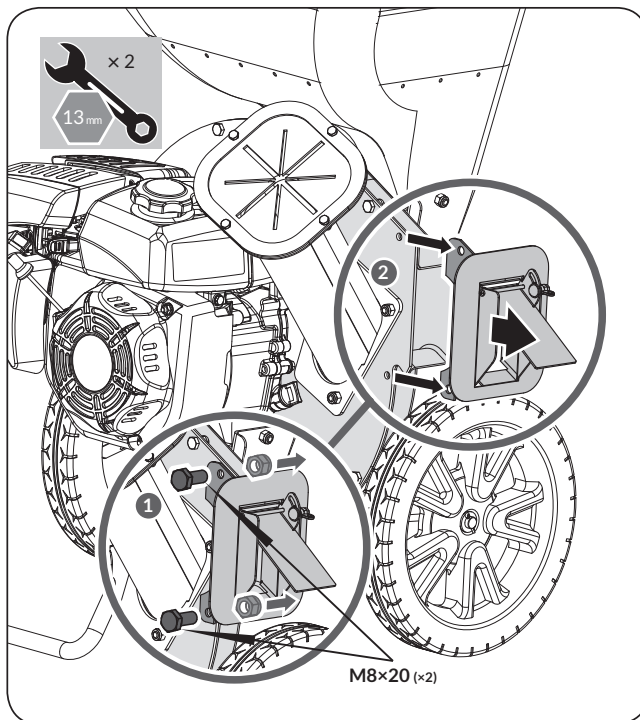

Figure 11
1. Remove the deflector bracket. (See **Figure 11**)